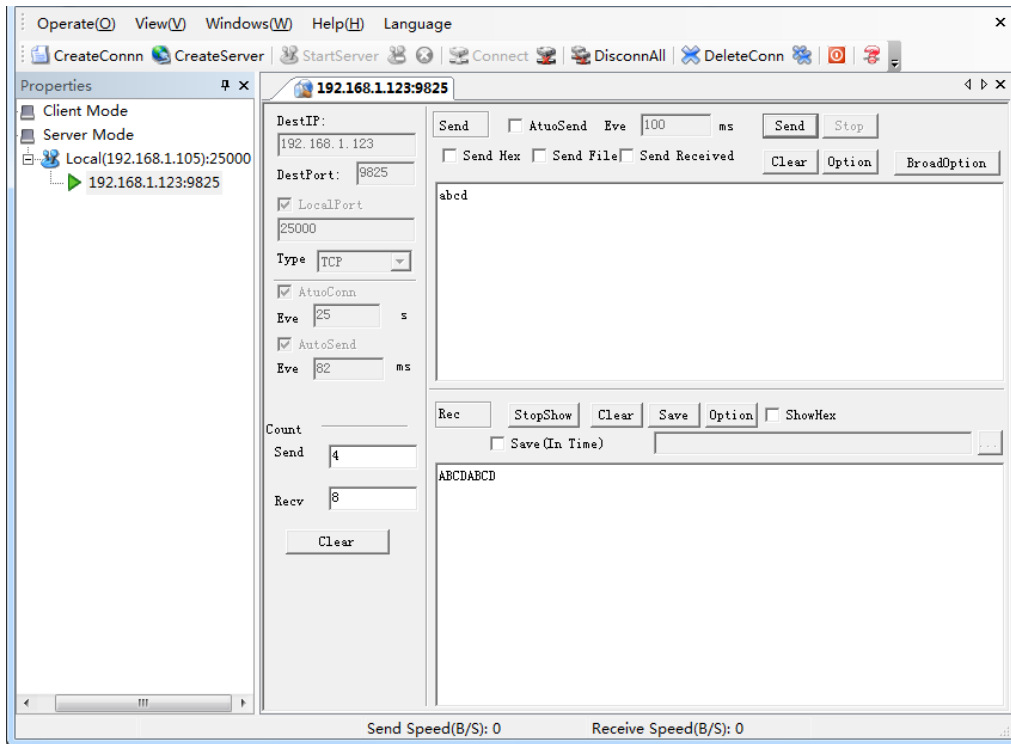

Figure 2-2 TCP/UDP Test Tool Data Sending and Receiving
2. The TCP Server sends a string to the TCP Client, namely, send data from the TCP/UDP Test tool to the serial port (Figure 2-2).